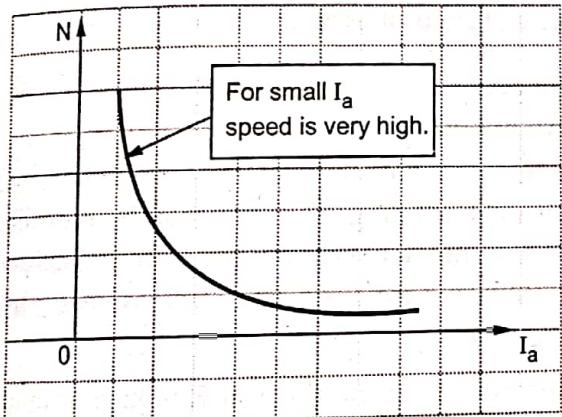

Fig. Q.48.2 N Vs  $I_a$  for series motor
- So speed-armature current characteristics is rectangular hyperbola type as shown in the Fig. Q.48.2.